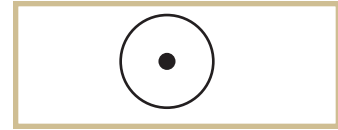

FIGURE A4—Use this schematic to answer **Question 17**.
17. What does the symbol shown in **Figure A4** stand for?